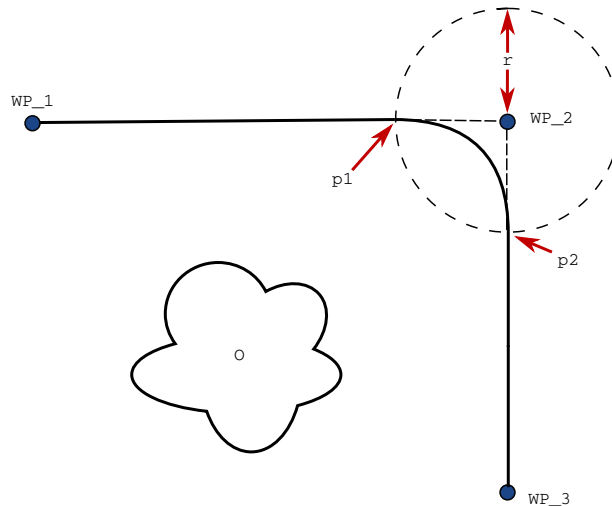

Figure 15.3: Blend over `WP_2` with radius  $r$ , initial blend position at  $p1$  and final blend position at  $p2$ .  $o$  is an obstacle.
**Blend parameters** Apart from the waypoints, multiple parameters will influence the blend trajectory (see figure 15.3):